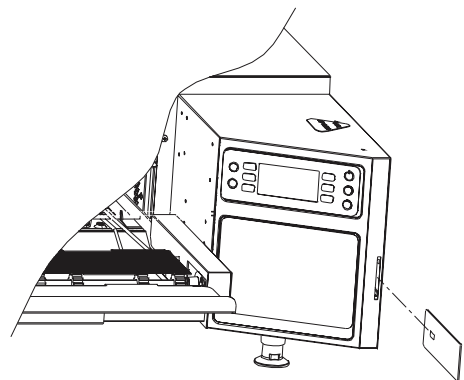

Figure 25: Updating Firmware
1. Insert the gray smart card (see Figure 25) with the gold chip facing the front of the oven. If multiple smart cards are required, they will be labeled in sequence – ensure the correct sequence is followed.